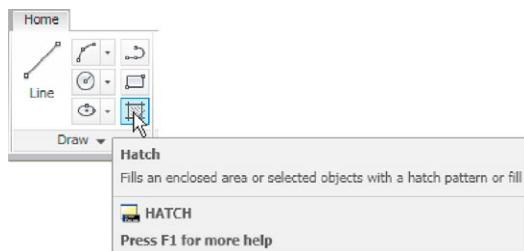

Fig. 8.5 Left-click on the Hatch tool icon in the Home/Draw panel
1. *Left-click on the Hatch tool icon in the Home/Draw panel (Fig. 8.5).* The ribbon changes to the **Hatch Creation** ribbon. *Entering hatch or h at the command line has the same result.*